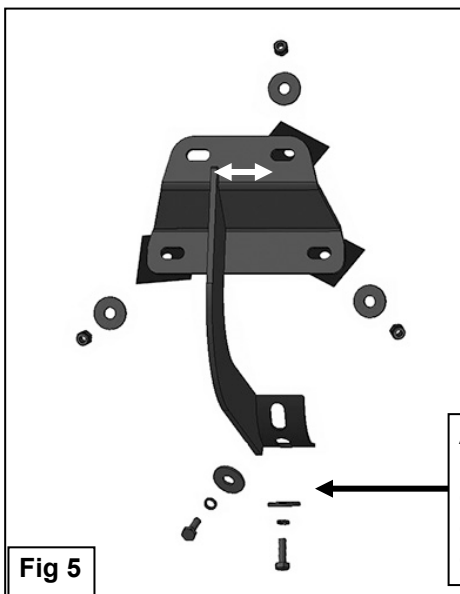

Fig 5
4. Repeat **Steps 1—3** to install the (2) remaining center and rear passenger side Brackets.
5. Select the passenger/right Sidebar. Carefully position the Sidebar onto the (3) Mounting Brackets.
IMPORTANT: Do not slide, (front to back or rotate), the Sidebar on the Brackets or damage to the finish on the Sidebar may result. Attach the Sidebar to the Mounting Brackets with (6) 8mm x 25mm Hex Bolts, (6) 8mm Lock Washers and (6) 8mm Flat Washers, **(Figure 5)**. Do not tighten hardware.